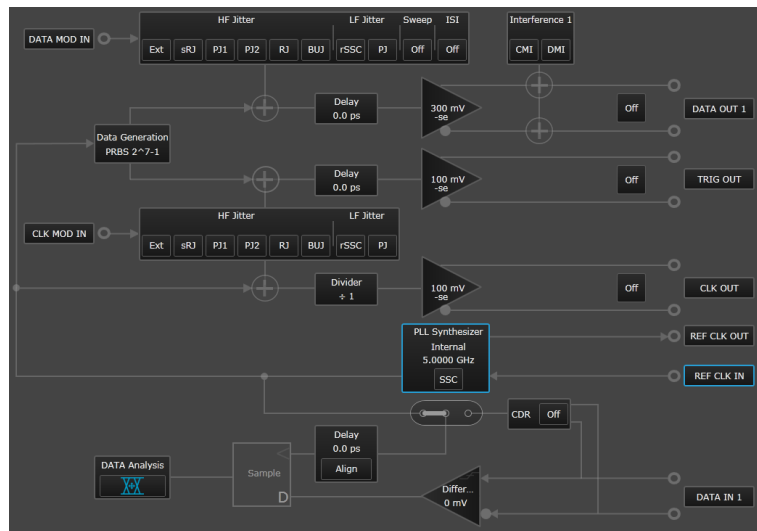

Figure 36 Synthesizer parameters
- b Click on the **PLL Synthesizer Internal** block as shown in Figure 36 on page -89 to display the **Synthesizer** properties.